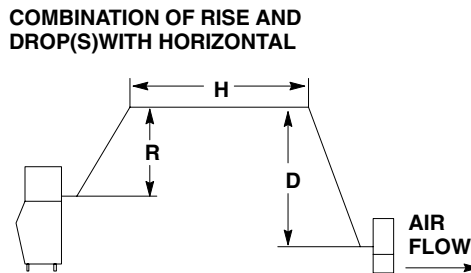

FIGURE 27
- d. Add the calculated rise, calculated drop, and horizontal distance together to get the total calculated distance (25.5 + 52.8 + 6) equals 84.3 ft. [25.694 meters]. If 100 ft. [30.48 meters] total calculated distance is exceeded, the condenser must be moved to a new location which permits proper equipment operation (See Figure 27).